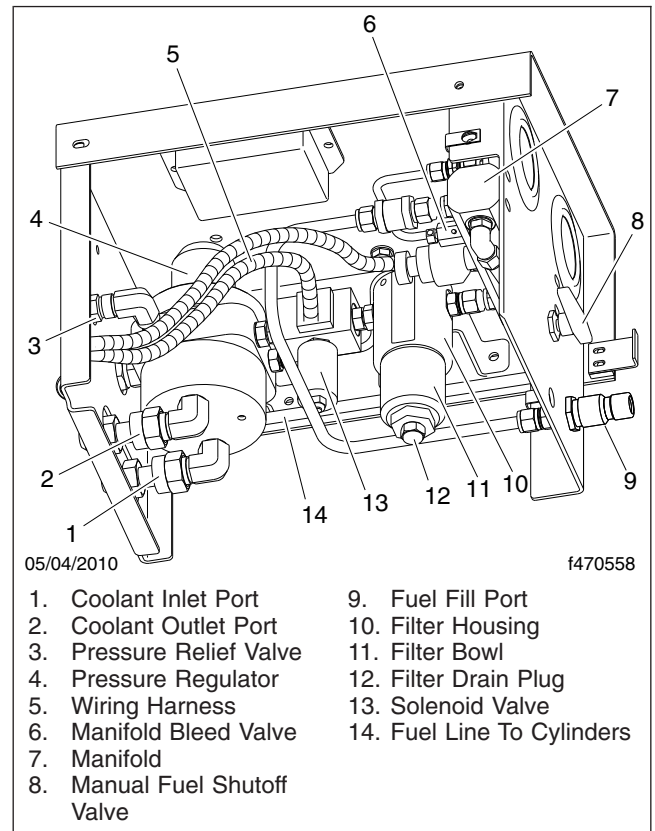

Fig. 15, CNG Fuel Panel Components
6. Slowly open the bleed valve on the manifold to relieve remaining fuel pressure within the system. See **Fig. 15**.